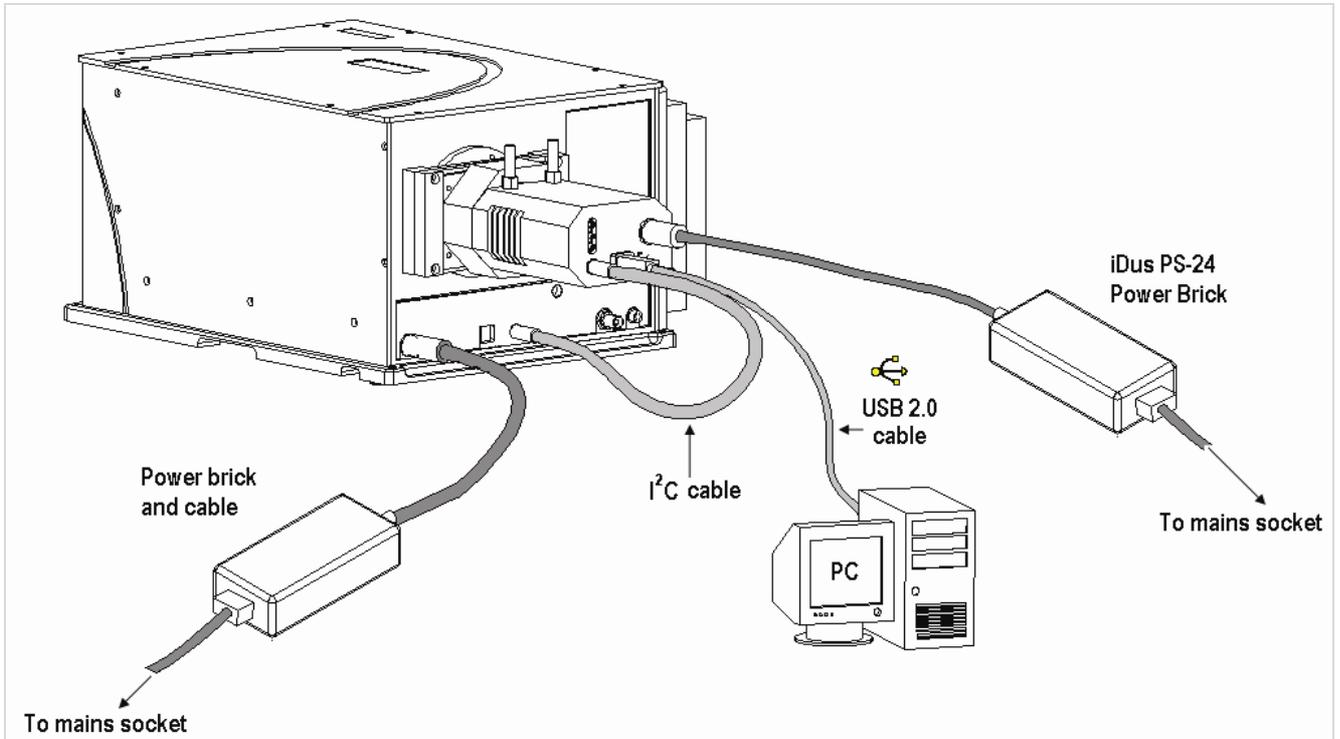

Figure 4: Hardware connections (USB 2.0 CCD systems)
**Figure 4** shows the electrical connections used when using the Shamrock SR-303i with an Andor iDus USB camera.